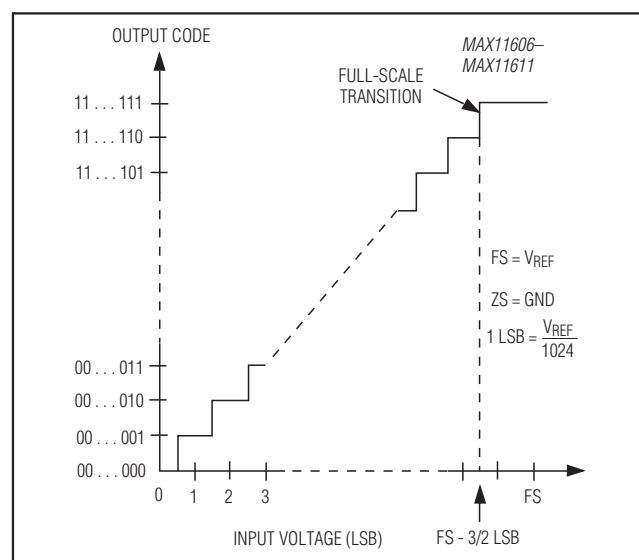
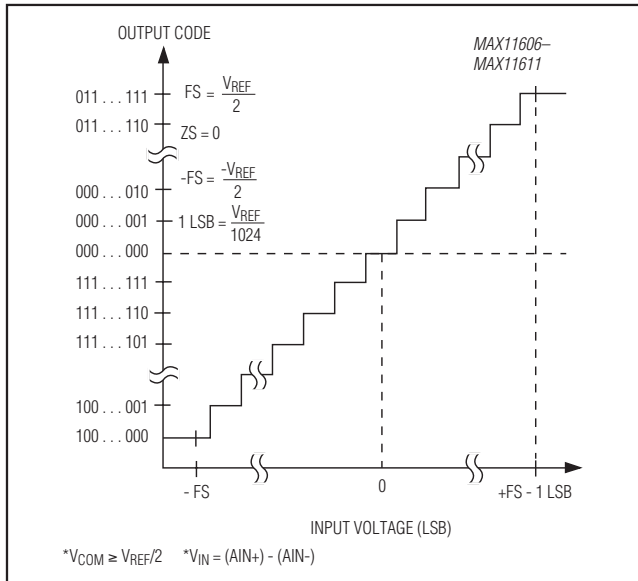

Figure 12. Unipolar Transfer Function
Figure 13. Bipolar Transfer Function
Output data coding for the MAX11606–MAX11611 is binary in unipolar mode and two's complement in bipolar mode with 1LSB = (VREF/2N) where N is the number of bits (10). Code transitions occur halfway between successive-integer LSB values. Figure 12 and Figure 13 show the input/output (I/O) transfer functions for unipolar and bipolar operations, respectively.